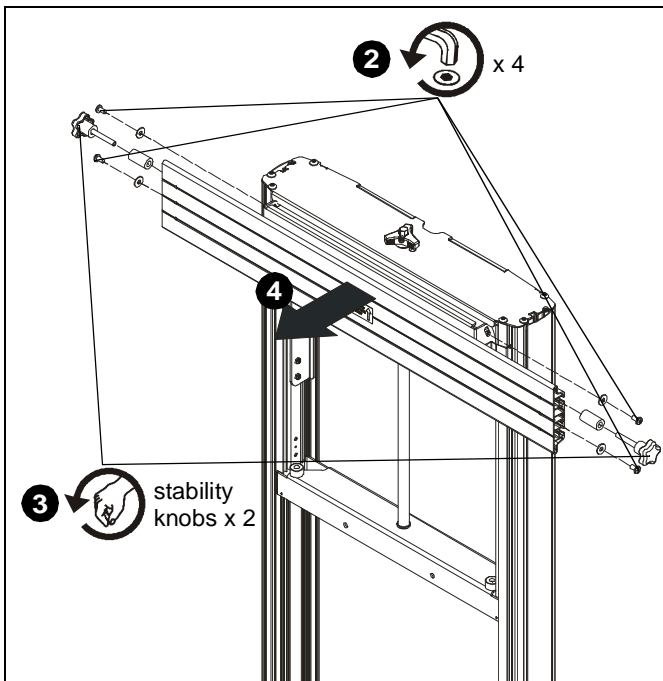

Figure 2
2. Remove four screws and washers holding tilt bracket and head assembly to column assembly. (See Figure 2)
3. Remove two stability knobs and spacers from head assembly. (See Figure 2)
4. Remove tilt plate and head assembly from column assembly. (See Figure 2)